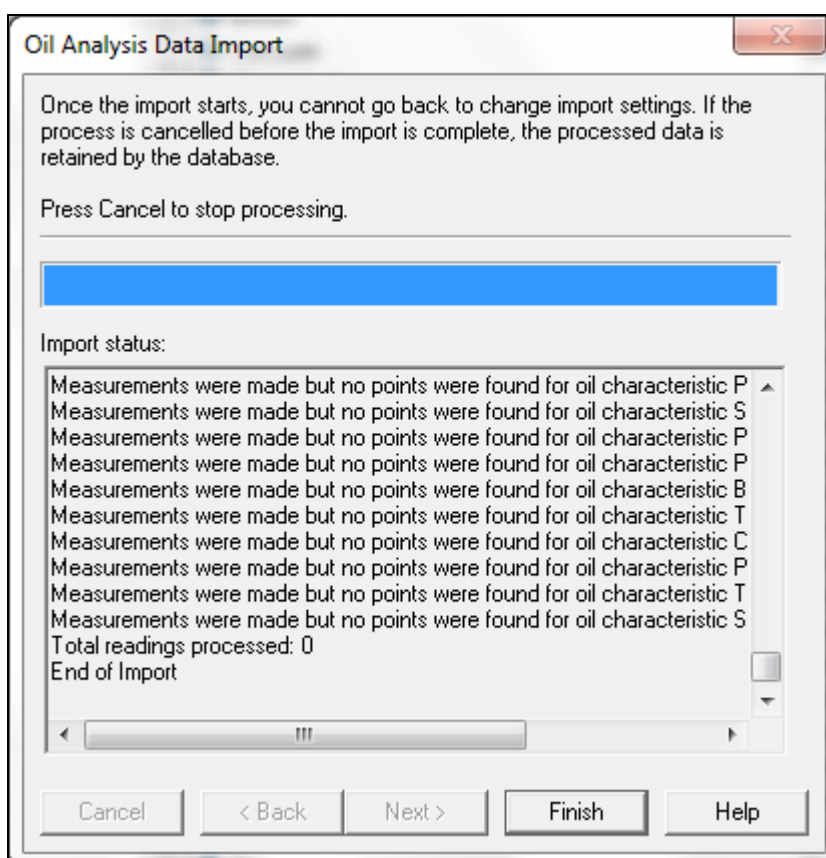

Figure 4. Importing data
6. A blue progress bar will display while data is being imported. Data will only be imported for POINTs that have an oil tag. [Figure 4]